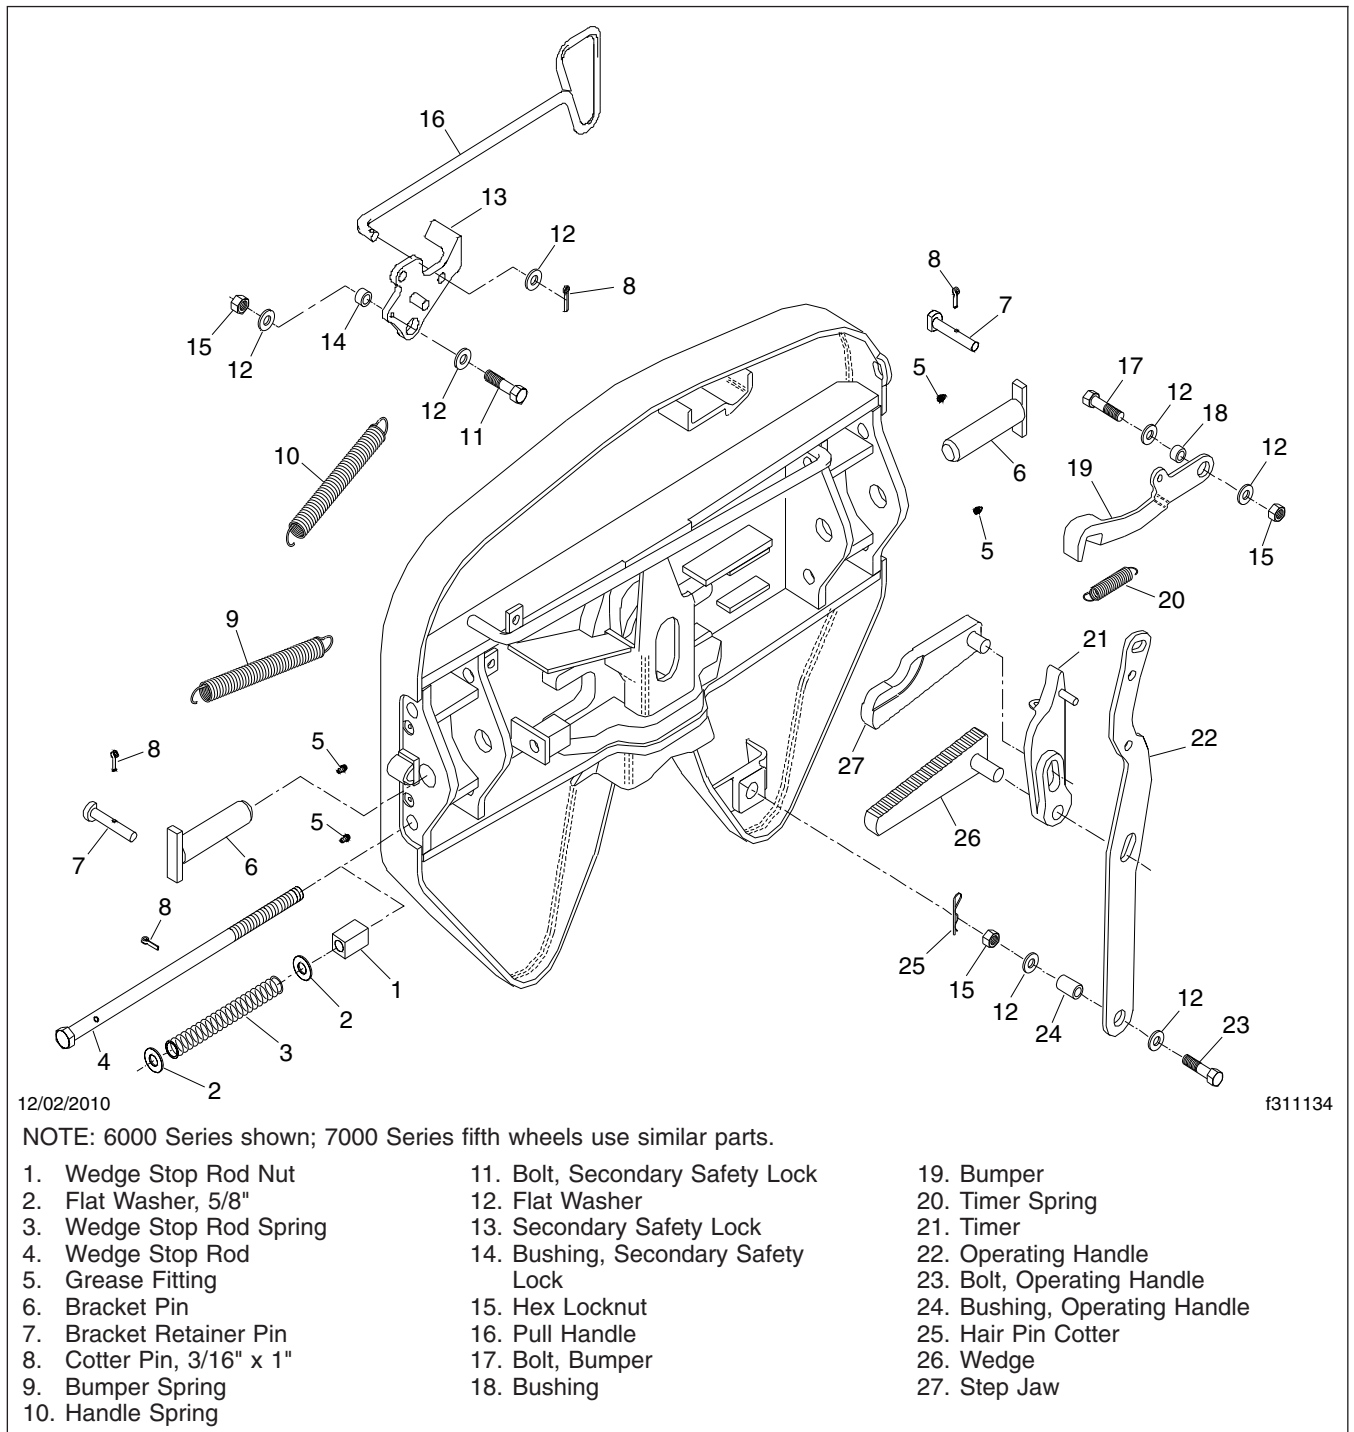

Fig. 2, Fontaine Fifth Wheel
4. Ensure that both bracket pins are in place and secured by retainer pins and cotter pins. See Fig. 2.